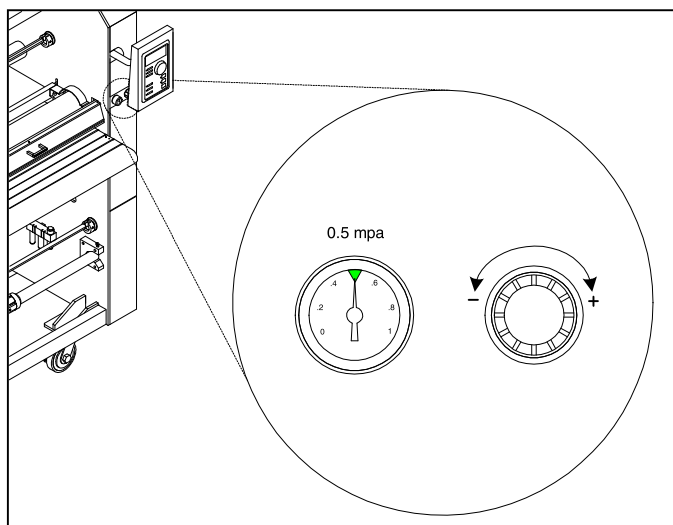

Fig. 5
9. Set the laminator main air regulator pressure to 0.5 mpa. (Figure 5)